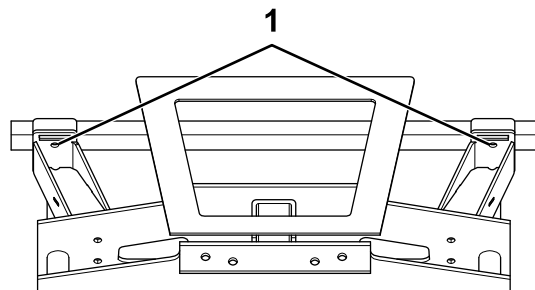

Figure 2
5. Using the mounting brackets as guides, drill 2 holes (7/16 inch) in the vehicle frame (Figure 2).